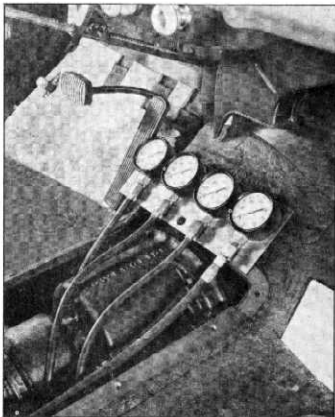

Fig. 147—Connecting Pressure Gauges
2. Connect pressure gauges (fig. 147) to the following test points: